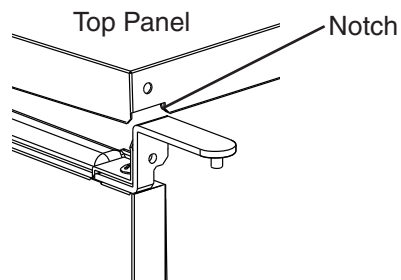

Fig. 14
- e) Rotate the top panel 180° from its previous position. This brings the notch that was previously in the right rear to the left front. See Fig. 14. Hook the rear part of the panel on the body, then secure the front with the 2 screws removed in step 6b.